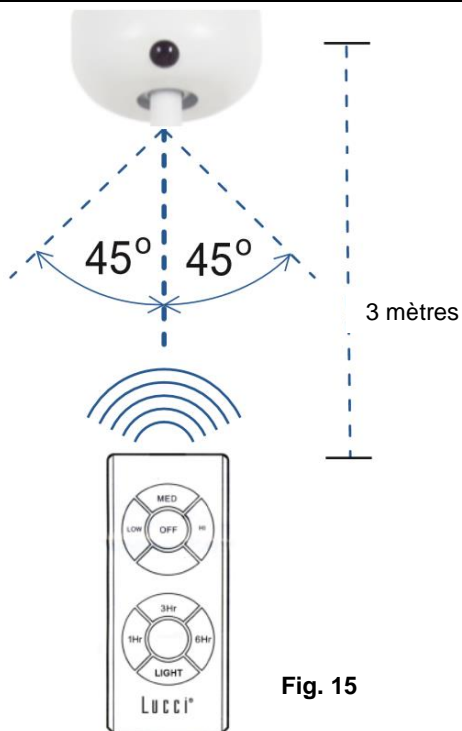

Fig. 15
**EMPLACEMENT EFFICACE POUR LA COMMANDE INFRAROUGE (Fig. 15)**